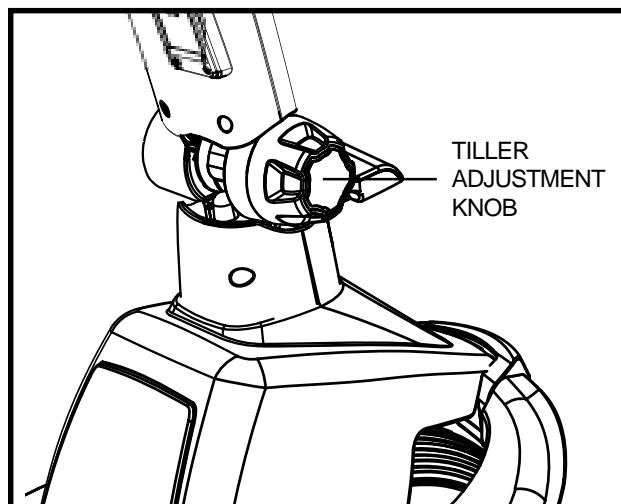

Figure 15. Tiller Adjustment
1. While supporting the tiller, turn the tiller adjustment knob anticlockwise to loosen the tiller. See **figure 15**.